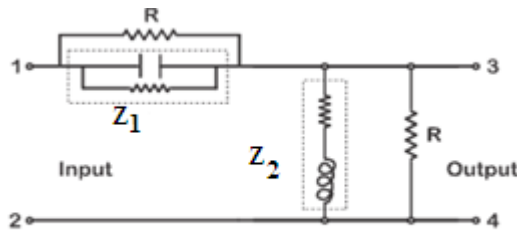

Fig.1.12 Four terminal equalizer
- ❖ A simple constant resistance equalizer is shown in figure 1.12.